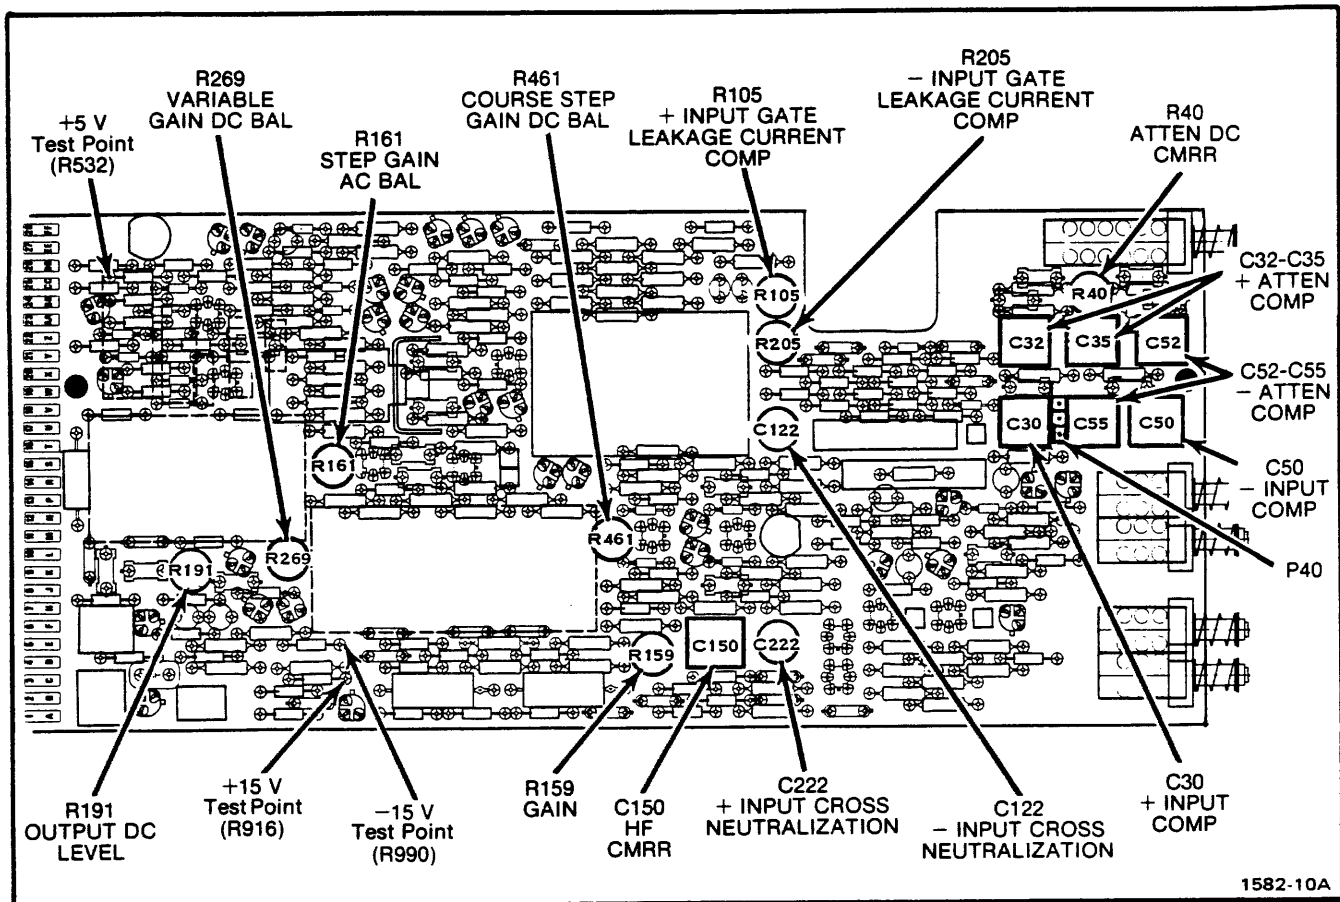

Fig. 3-1. Location of power supply test points, and all adjustments.
a. Connect the digital voltmeter between the +15 V test point on the Main circuit board, and chassis ground. See Fig. 3-1 for voltage test point location.
a. Connect the digital voltmeter between the -15 V test point on the Main circuit board, and chassis ground. See Fig. 3-1 for voltage test point location.
a. Connect the digital voltmeter between the +5 V test point on the Main circuit board, and chassis ground. See Fig. 3-1 for voltage test point location.
- c. Adjust—Step Gain AC Bal, R161, for minimum trace shift while switching the AM 502 GAIN switch between the 100 and 100K positions. See Fig. 3-1 for adjustment location.
- c. Adjust—Variable Gain DC BAL, R269, for minimum trace shift while rotating the AM 502 CAL control from fully clockwise to fully counterclockwise position. See Fig. 3-1 for adjustment location. Return control to the fully clockwise position and note the position of the trace.
- c. Adjust—Coarse Step Gain DC Bal, R461, to return trace to the center of the graticule. See Fig. 3-1 for adjustment location.
g. Adjust— +Input Comp, C30, for best flat top (minimum roll-off or overshoot on upper front corner) on displayed waveform. See Fig. 3-1 for adjustment location.